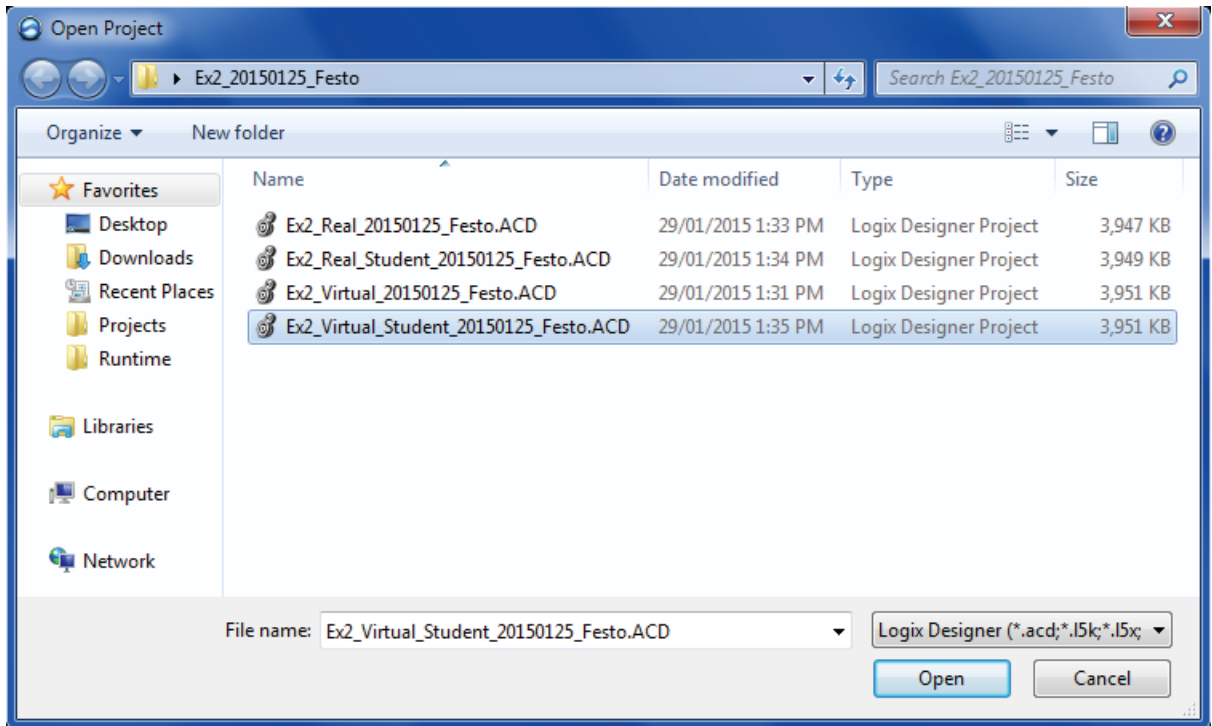

Figure 95. Opening the *Ex2_Virtual_Student* Logix Designer project.
- Open the *Ex2_Virtual_Student* project in Logix Designer (Figure 95).